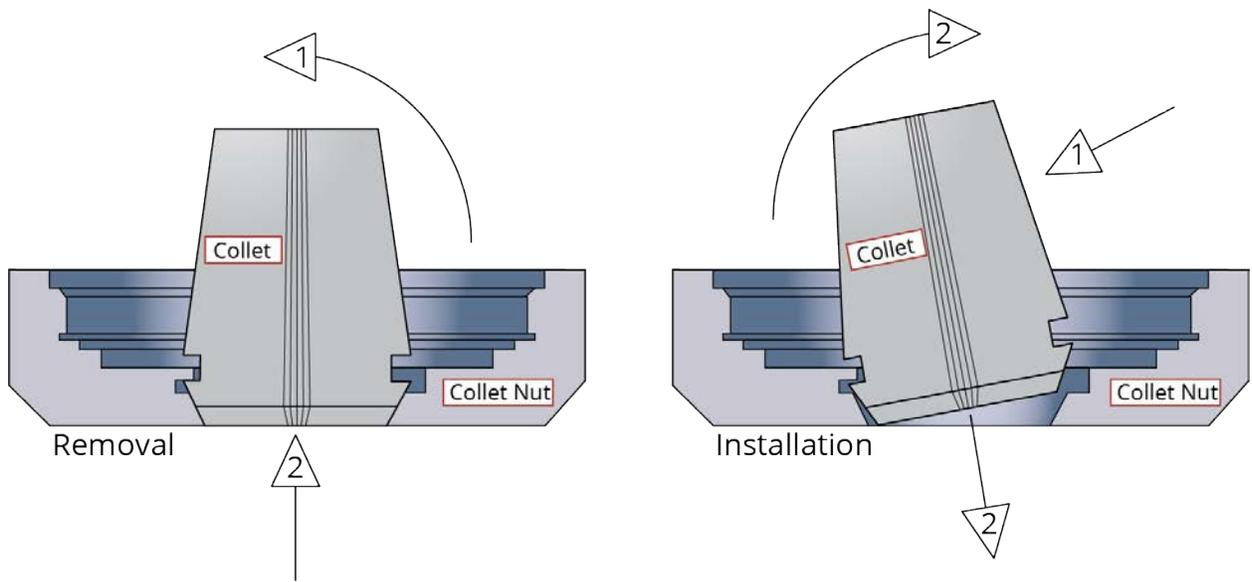

Figure 2-7: Schematic of Collet Insertion Into and Removal From Collet Nut
- Step 5: Refer to the instructions in Figure 2-7 to install or remove a collet from the collet nut.